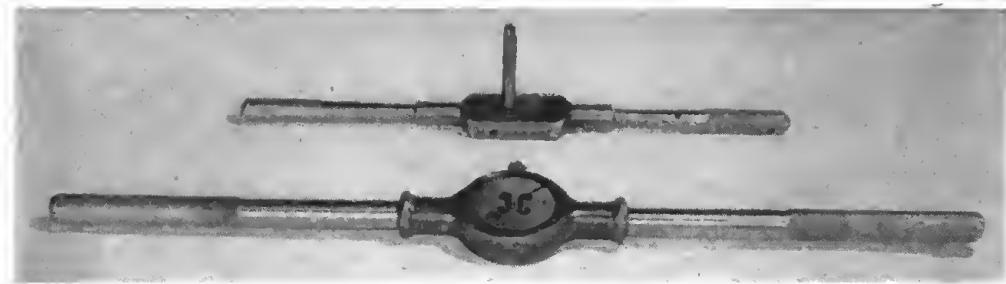

Figure 134. Tap and die in holders.
(4) The use of a hacksaw is similar to the use of a file. The work should be rigid. The stroke should be as long as possible. There should not be over 60 strokes per minute. Pressure should be applied on the forward stroke only.
g. TAPS AND DIES. (1) Taps and dies are used to cut threads on the inside or outside of a hole or cylinder. They are made of hard-tempered steel and ground to an exact size. (See fig. 134.) There are four types of threads that may be cut with standard taps and dies. They are: National coarse, National fine, National extra fine, and National pipe. (See fig. 135.) The pipe threads differ from the others in that they are tapered. Dies may be classified as solid, adjustable-split, and pipe. The three types of taps are taper, plug, and bottoming. (See fig. 136.) For general use, the taper tap is most frequently used.